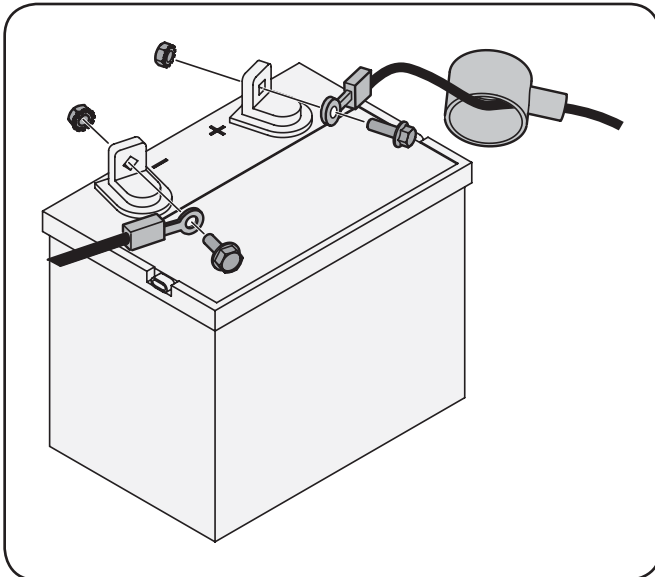

Figure 3-1
1. Remove the plastic cover, if present, from the positive battery terminal and attach the red cable to the positive battery terminal (+) with the bolt and hex nut. See Fig. 3-1.
2. Remove the plastic cover, if present, from the negative battery terminal and attach the black cable to the negative battery terminal (-) with the bolt and hex nut. See Fig. 3-1.